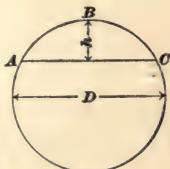

FIG. 49.
83. To find the area of a segment of a circle (a **segment** of a circle is the area included between a chord and its arc; for example, the area $ABCA$, Fig. 49) when its chord and height are given. There is no exact method, except by applying principles of trigonometry. The following rule gives results that are exact enough for practical purposes.
The rule, expressed as a formula, is as follows, where D = the diameter of the circle and h = the height of the segment (see Fig. 49):
NOTE.—Had the chord AC , Fig. 49, been given instead of the diameter, the diameter would have been found as explained in Art. 75.